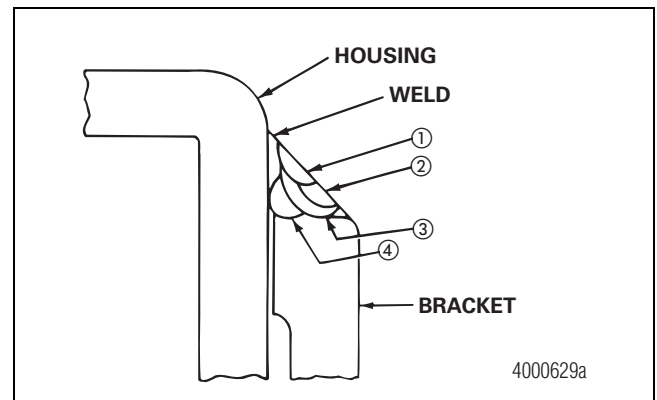

Figure 3.8
4. Gouge approximately four grooves into the weld the full length of the bracket. The grooves must not be more than 0.25-inch (6.4 mm) deep. Follow the gouging pattern shown in Figure 3.8 until the bracket separates from the axle housing.